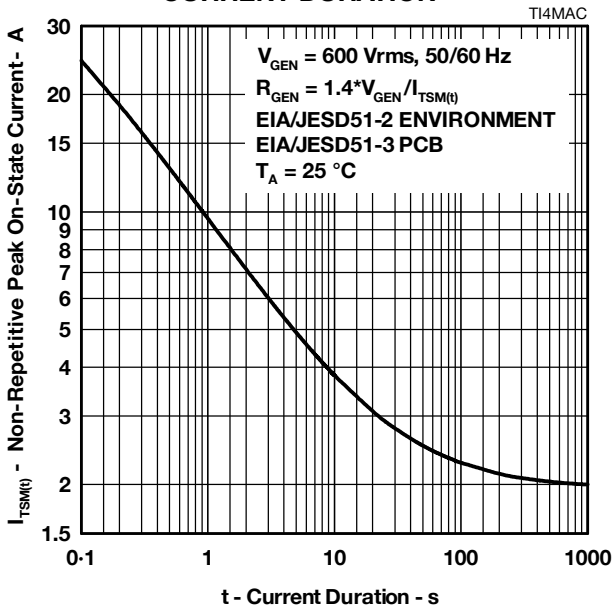

Figure 9.
5. EIA/JESD51-2 environment and EIA/JESD51-3 PCB with standard footprint dimensions connected with 5 A rated printed wiring track widths. See Figure 9 for the current ratings at other durations. Derate current values at $-0.61\text{ } \%/^\circ\text{C}$ for ambient temperatures above $25\text{ }^\circ\text{C}$.
The protector can withstand currents applied for times not exceeding those shown in Figure 9. Currents that exceed these times must be terminated or reduced to avoid protector failure. Fuses, PTC (Positive Temperature Coefficient) thermistors and fusible resistors are overcurrent protection devices which can be used to reduce the current flow. Protective fuses may range from a few hundred milliamperes to one ampere. In some cases, it may be necessary to add some extra series resistance to prevent the fuse opening during impulse testing. The current versus time characteristic of the overcurrent protector must be below the line shown in Figure 9. In some cases, there may be a further time limit imposed by the test standard (e.g. UL 1459 wiring simulator failure).